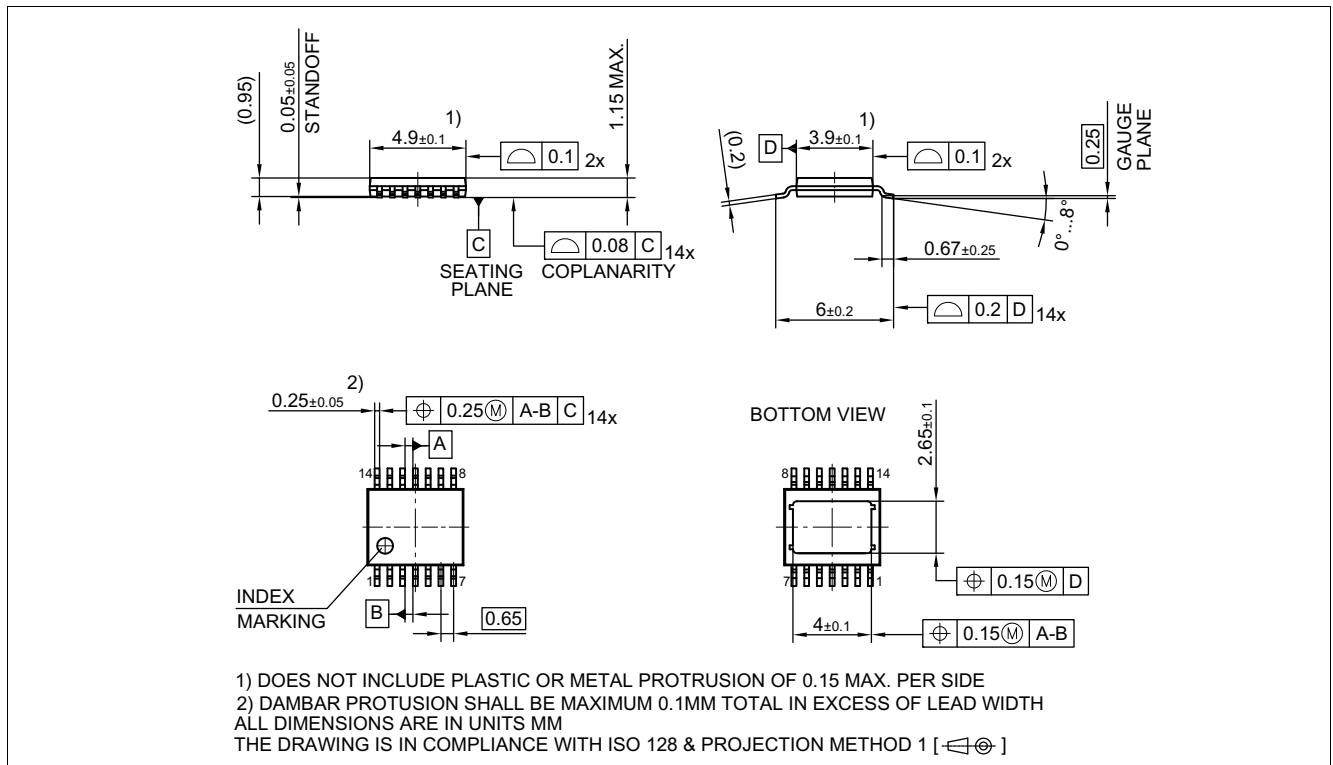
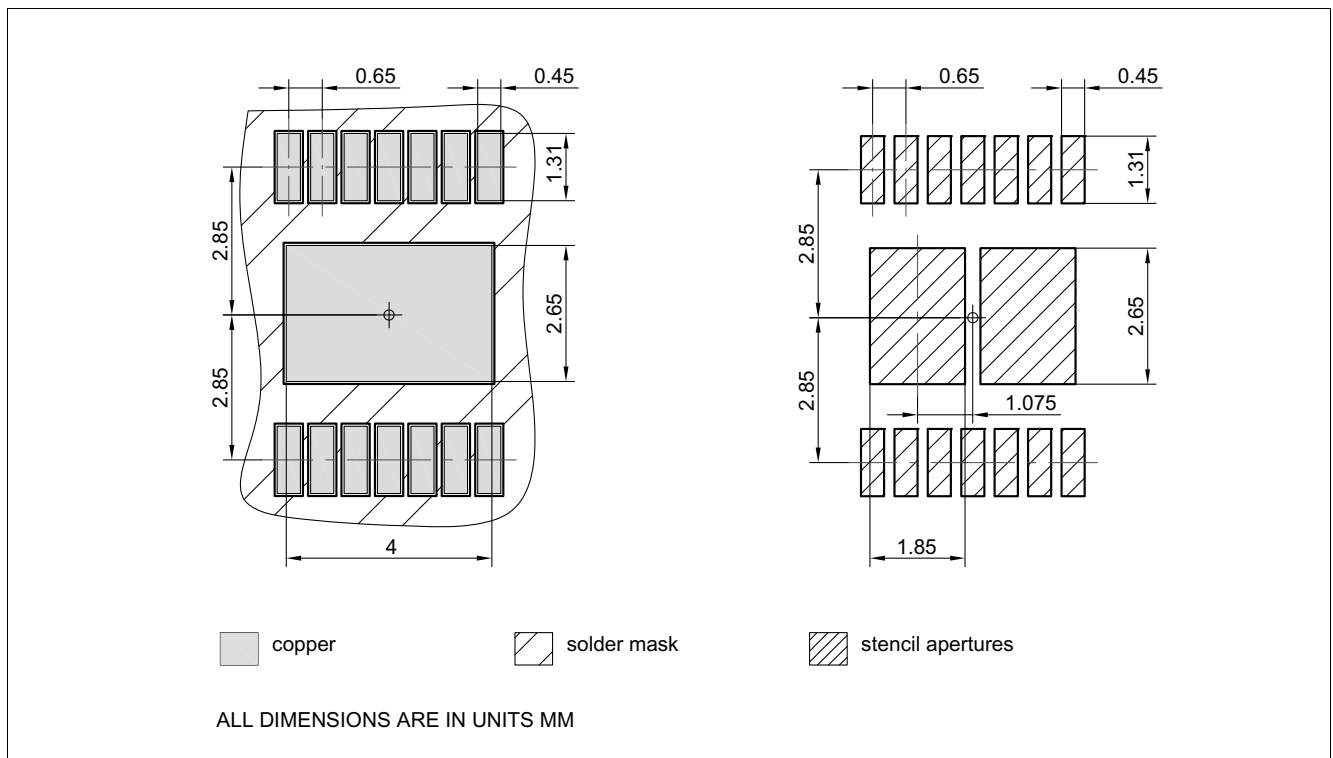

Figure 43 PG-TSDSO-14 (Thin (Slim) Dual Small Outline 14 pins) Package Outline
Figure 44 PG-TSDSO-14 (Thin (Slim) Dual Small Outline 14 pins) Package pads and stencil
1.01, 2019-06-26	Chapter 9.2 updated (2 V → $V_{DS(OLOFF)}$) General: updated (ReverSave™ → ReverseON) Figure 1 updated Chapter 1 updated ((inserted headline "Product Validation"), (Qualified in accordance with AEC Q100 grade 1 → Qualified for automotive applications. Product validation according to AEC-Q100 Grade 1.)) General: updated Product Name (PROFET™+2 → PROFET™+2 12V) Page 1: updated figure product Table 23 updated punctuation Chapter 9.3.1 updated (typo) Page 1: updated (Package PG-TSDSO-14-22 → Package PG-TSDSO-14) Figure 29 updated Figure 43 updated (PG-TSDSO-14-22 (Thin (Slim) Dual Small Outline 14 pins) Package Outline → PG-TSDSO-14 (Thin (Slim) Dual Small Outline 14 pins) Package Outline) Figure 44 updated (PG-TSDSO-14-22 (Thin (Slim) Dual Small Outline 14 pins) Package pads and stencil → PG-TSDSO-14 (Thin (Slim) Dual Small Outline 14 pins) Package pads and stencil) Table 1 updated ((Symbol: $I_{VS(SLEEP)}$ → $I_{VS(SLEEP_85)}$), (Parameter: Minimum Overvoltage protection ($T_j = 25\text{ °C}$) → Minimum Overvoltage protection ($T_j \geq 25\text{ °C}$)) P_9.6.0.6 updated (Note or Test Condition: removed unnecessary line-break)